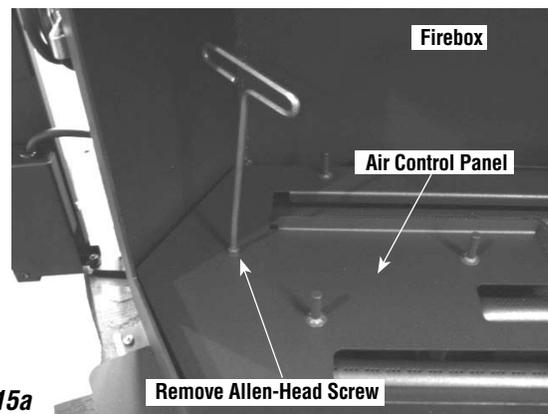
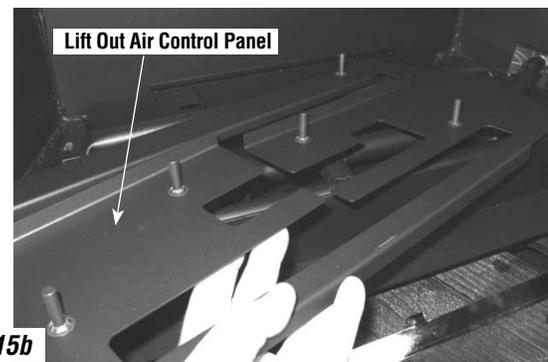

Figure 15a
Figure 15b
2. Using a 5/32" allen wrench, remove the allen-head screw on the left side of the air control panel as shown in **Figure 15a**, then lift out air control panel as shown in **Figure 15b**.